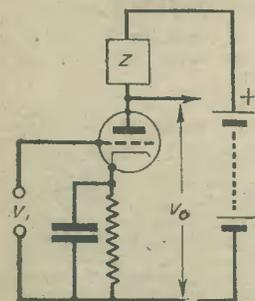

Fig. 1.—A valve amplifier with anode impedance.
**B**EFORE considering the resistance-coupled amplifier proper, a few notes will be made on the equivalent circuit representation of any valve amplifier having an anode load  $Z$  (Fig. 1). The change  $dI_a$  in the anode current  $I_a$  of this amplifier that results from a change in  $V_g$  to  $(V_g + dV_g)$  is given by: